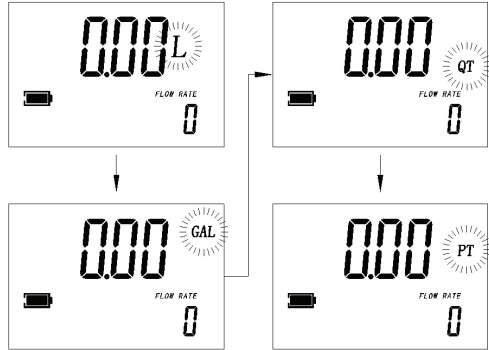

Fig. 6
• **Measurement unit change (See Fig. 6)**